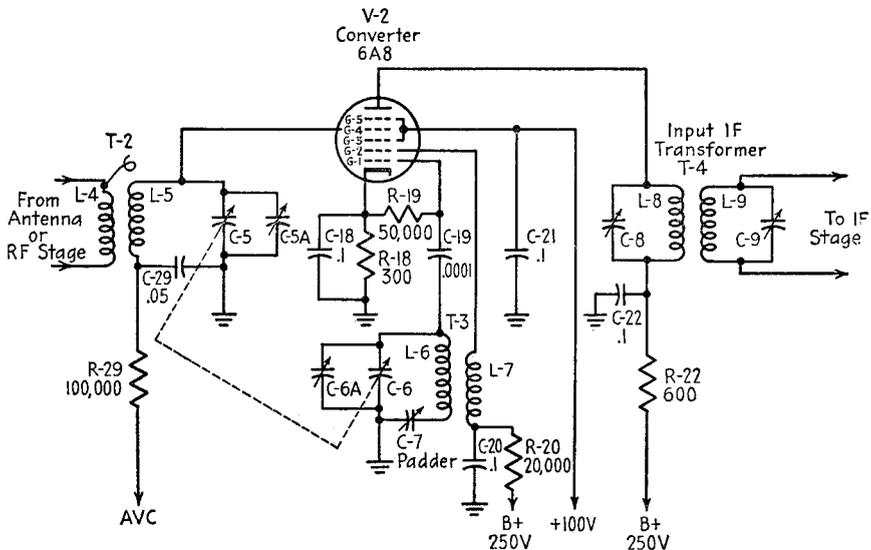

FIG. 14-1. Typical pentagrid converter circuit.
**Standard circuit of a converter.** This circuit is shown in Fig. 14-1.